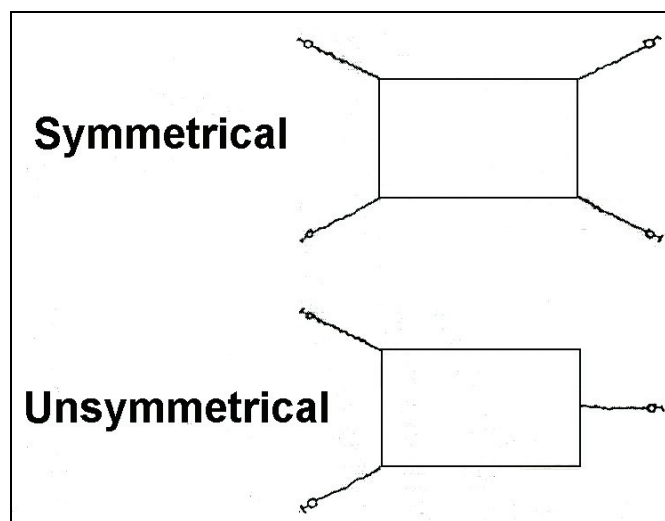

Figure 3-93. Attachment of MB1 and MB2 Tie-down Devices in a Symmetrical Pattern
- b. Direct the attachment of MB1 and MB2 tie-down devices in a symmetrical pattern and in pairs (see Figure 3-93).